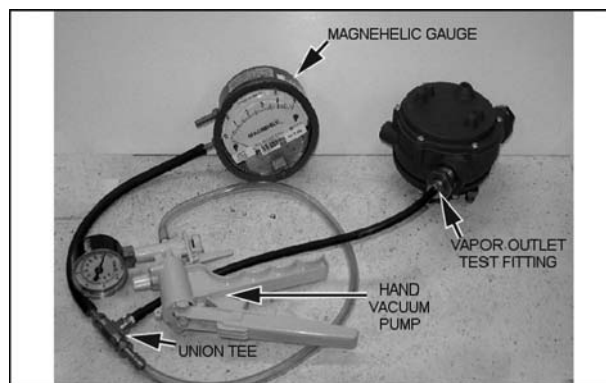

Figure 34. Secondary Stage Test Connection
1. Connect the vacuum pump, the Magnehelic gauge and the regulator vapor outlet to the Union Tee fitting (Figure 34). Make sure there is no leakage at any of the fittings.